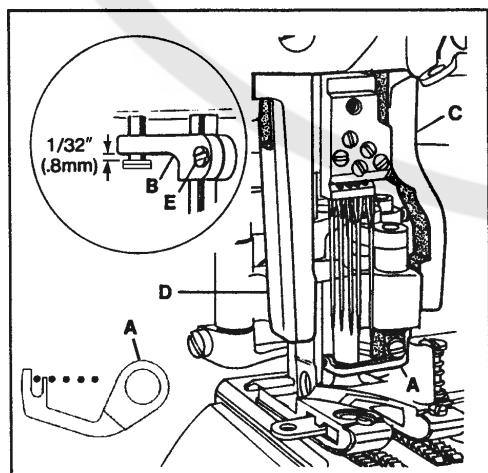

FIG. 20
Remove the presser bar regulating screw and the presser spring. Raise the needle bar to its highest position and remove the retainer. As the foot is slipped under the needles, swing the upper knife into the opening on the right side of the foot and slide the linkage onto the hook driving sleeve. Insert the presser bar through the linkage and into the presser foot shank. Tighten presser foot screw. With the presser bar inserted properly into the presser foot, position the foot left to right so the finger of cover thread carrier (A, Fig. 20) is between the first and second needles. Set presser bar guide (B, Fig. 20 Inset) so foot will not move. Set right presser foot guide (C) and left presser foot guide (D) to maintain setting. Loosen presser bar guide screw (E Fig. 20 Inset) and check to see that foot has vertical freedom with no right to left play, no bind. Put the needle bar in its lowest position, and set 1/32"(0.8mm) above head of presser bar guide stud. Tighten presser bar guide screw (E).
Turn the handwheel in operating direction until link (A, Fig. 20) has traveled fully to the front. There must be a $1/64"$ (0.4mm) clearance between link (A) and the back of needle head (B) when link (A) starts to jackknife. Loosen screw (C) and rotate driving sleeve (D) to position link (A). Tighten screw (C).